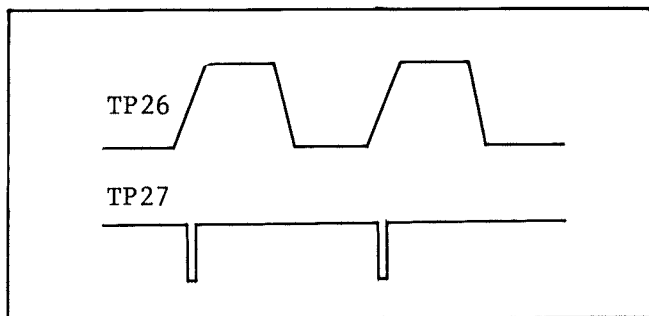

Fig. 2-4-6 CAPSTAN FREE RUN
4. Adjust VR10 (CAP F RUN) so that the two waveforms are locked, as shown in Fig. 2-4-6.